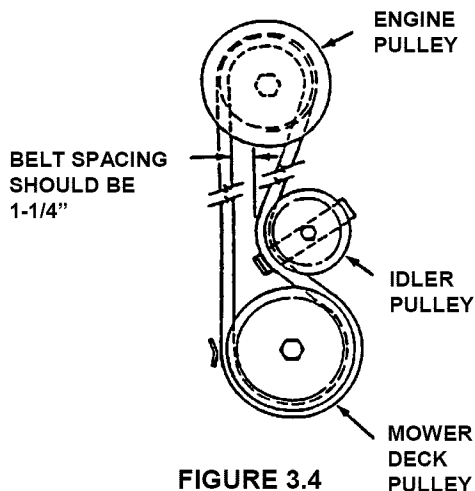

FIGURE 3.4
5. Measure the belt spacing at idler pulley. See Figure 3.4. The belt spacing should be 1 1/4" but no less 1". If the measurement is less than 1", the belt tension should be adjusted. Refer to Section "MOWER DRIVE BELT ADJUSTMENT".